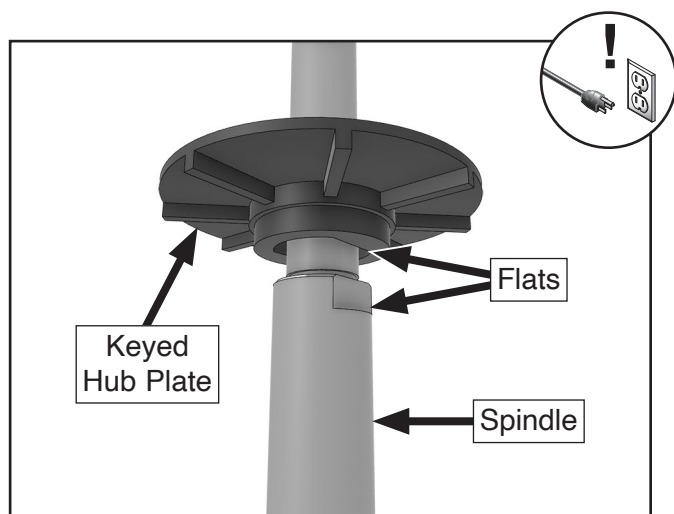
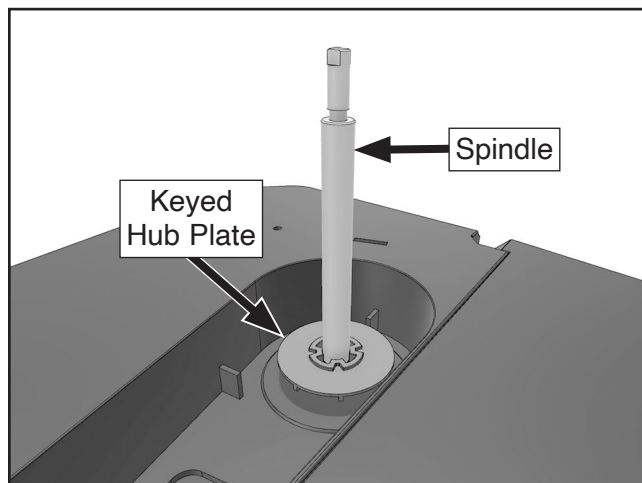

Figure 17. Keyed hub plate flats aligned with spindle shaft base flats (table removed for clarity).
Figure 18. Keyed hub plate fully seated on spindle.
5. Install keyed hub plate on spindle shaft, and rotate plate until flats shown in **Figure 17** align with spindle shaft base flats and plate fully seats (see **Figure 18**).